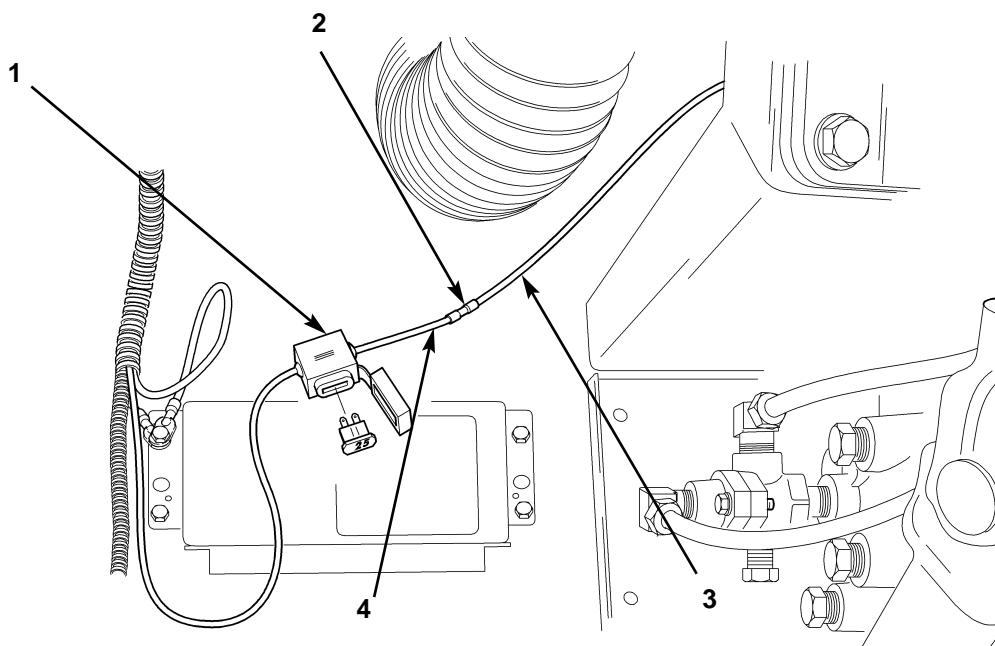

Figure 1. Disconnecting ABS ECU Harness from Battery Power.
1. Locate ABS ECU 30-amp fused red wire (figure 1, item 4) and follow it to black fuse connector (figure 1, item 1) near circuit 40 purple wire (figure 1, item 3).
2. Cut and discard wire connector (figure 1, item 2) from 30-amp fused red wire (figure 1, item 4) and circuit 40 purple wire (figure 1, item 3).